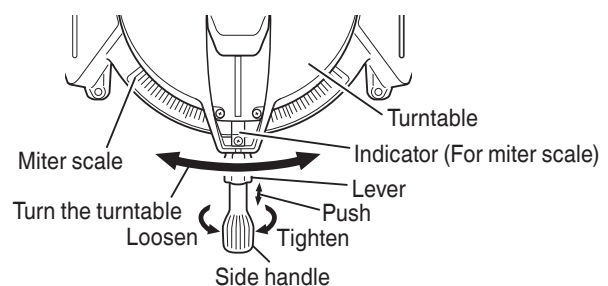

Fig. 16
- (1) Loosen the side handle and push the lever for angle stoppers. Then, adjust the turntable until the indicator aligns with desired setting on the miter scale (Fig. 16).
- (2) Re-tighten the side handle to secure the turntable in the desired position.